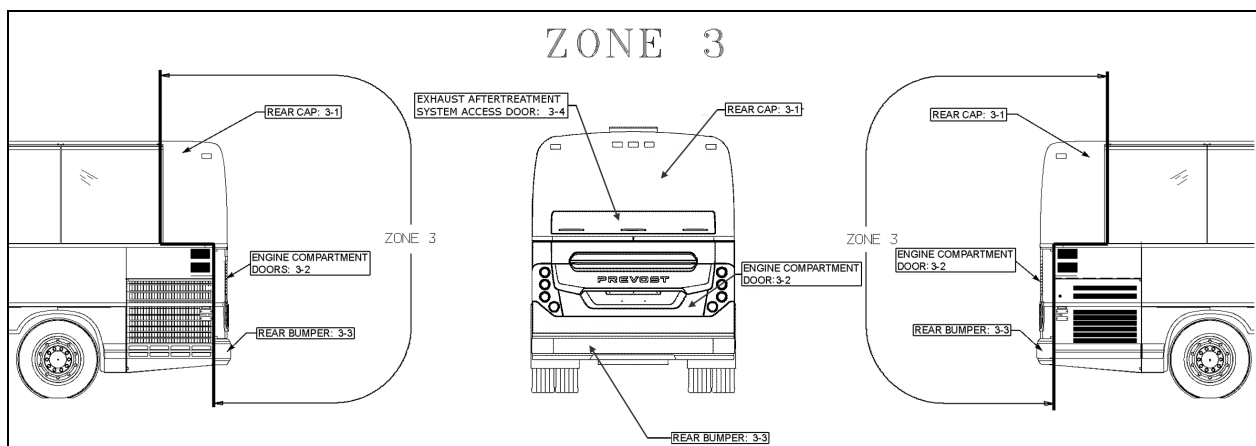

FIGURE 113: ZONE 3
1. To adjust the door VERTICAL position, loosen the bolts (4 on each side) holding the door supporting arm and gas springs bracket to the *vehicle structure* (Figure 113).
2. To adjust the door LATERAL position, loosen the bolts (3 on each side) holding the door supporting arm and gas springs bracket to the *door* (Figure 113).
3. Adjust the door FORE & AFT position by screwing/unscrewing the rubber door stops on each side of the door opening (Figure 113).